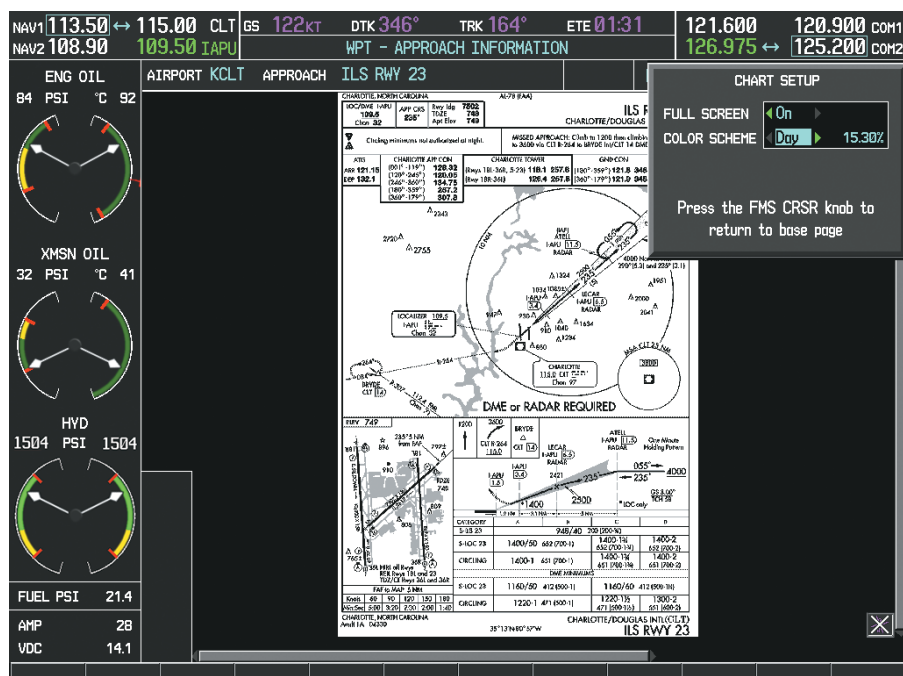

Figure 7-67 Approach Information Page, Day View
- 3) Turn the large **FMS** Knob to move to the COLOR SCHEME Option (Figure 7-67).